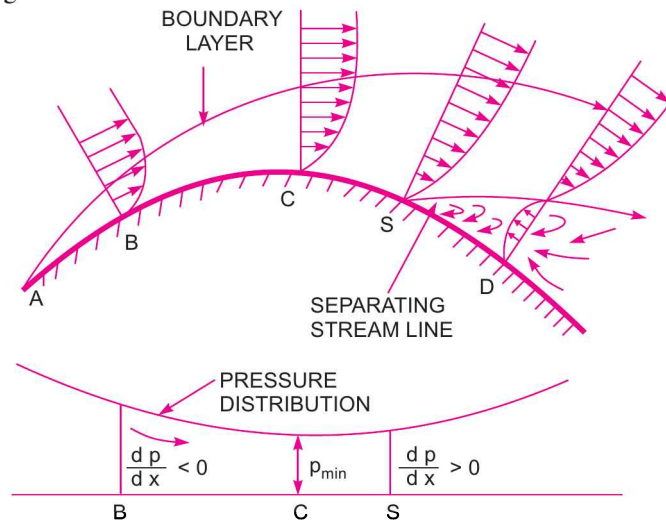

Fig. 13.7 Effect of pressure gradient on boundary layer separation.
curved surface $ABCD$ as shown in Fig. 13.7. In the region ABC of the curved surface, the area of flow decreases and hence velocity increases. This means that flow gets accelerated in this region. Due to the increase of the velocity, the pressure decreases in the direction of the flow and hence pressure gradient $\frac{dp}{dx}$ is negative in this region. As long as $\frac{dp}{dx} < 0$, the entire boundary layer moves forward as shown in Fig. 13.7.
13.7.3 Methods of Preventing the Separation of Boundary Layer. When the boundary layer separates from the surface as shown in Fig. 13.7 at point *S*, a certain portion adjacent to the surface has a back flow and eddies are continuously formed in this region and hence continuous loss of energy takes place. Thus separation of boundary layer is undesirable and attempts should be made to avoid separation by various methods. The following are the methods for preventing the separation of boundary layer :